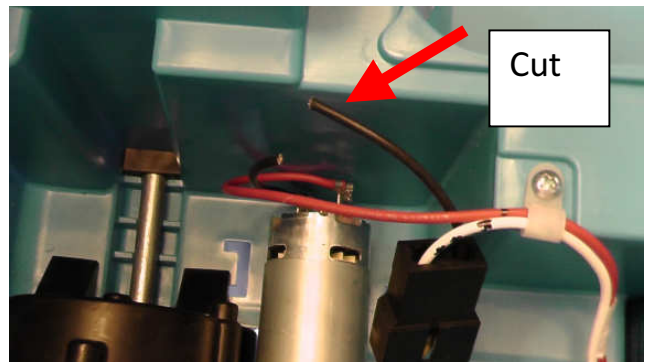

Fig. 9 Cut Black Wire
21) Working in the Wiring Compartment, cut the **black** wire that runs from the car's battery connector to the motor. Cut it right in the middle between the battery connector and motor. **Fig. 9**